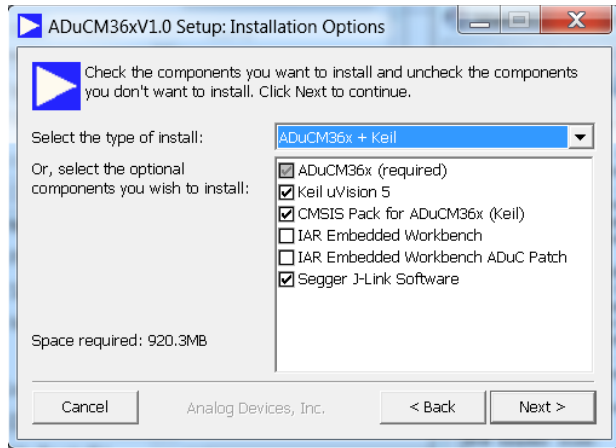
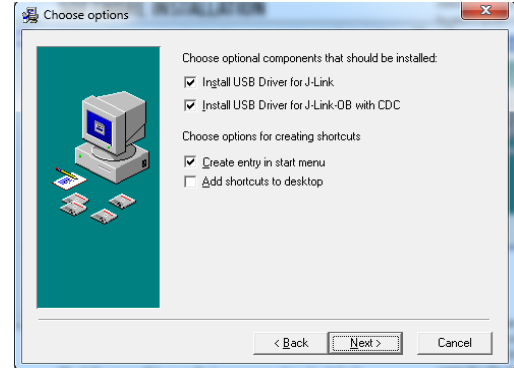

Figure 2. Installation Options
Figure 3. Installing Link Software
3. Double-click **ADuCM36x.exe** and follow the on-screen instructions. A menu displays installation options as shown in Figure 2.
The J-Link software is selected by default in the installation menu, shown in Figure 2. It is advised to leave it selected. The J-Link software automatically installs the J-Link serial port driver. Select **Install USB Driver for J-Link-OB with CDC**, shown in Figure 3. If that step is missed, run **JLinkCDCInstaller_V1.2b.exe** located in the **ADuCM36x\Segger** folder.